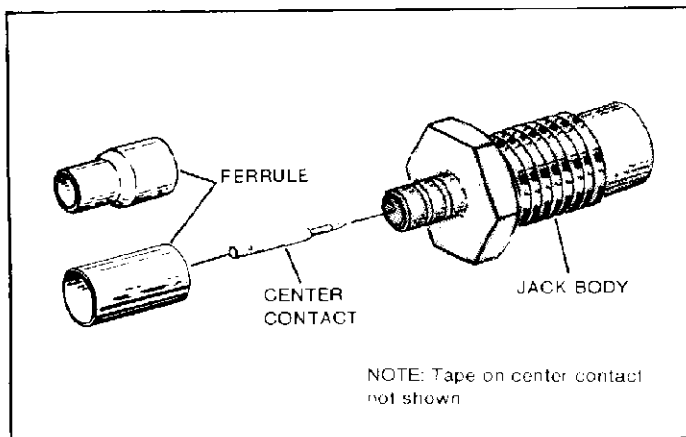
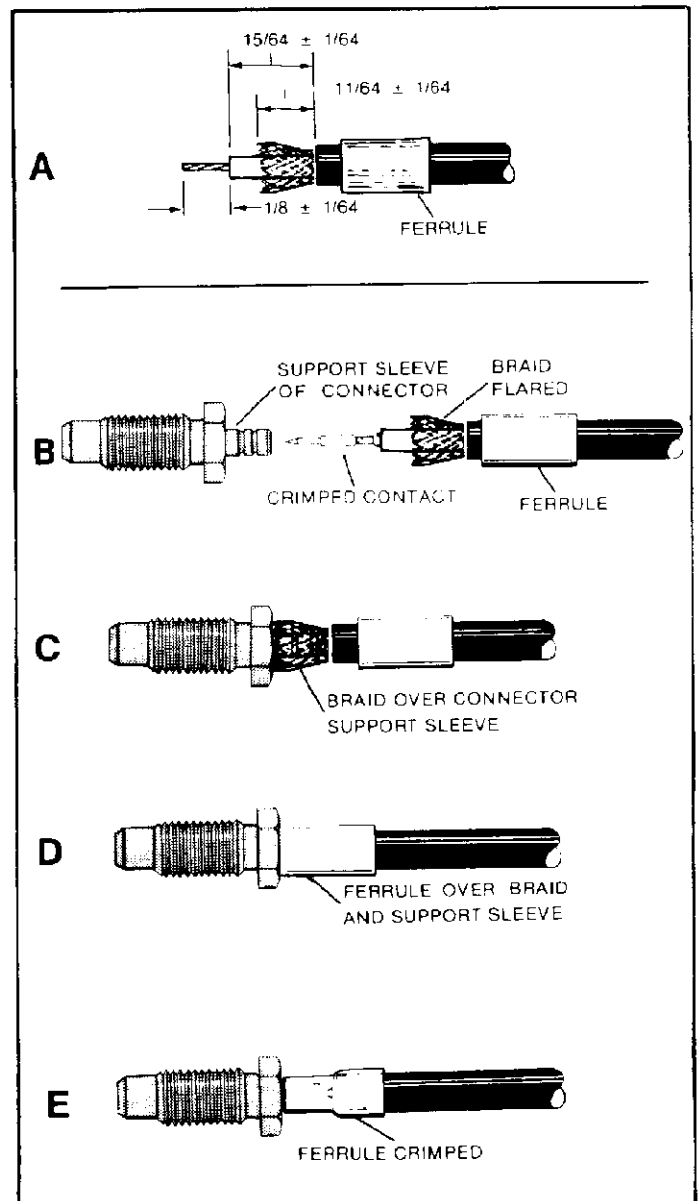

Figure 2
Figure 3
Figure 2 shows a typical COAXICON series SMC connector assembly. Detailed crimping instructions are packaged with the crimping tools and dies. Refer to Figure 3 and steps below for assembly procedure.
2. CONNECTOR ASSEMBLY (Figure 3)
- Slide ferrule onto cable and strip cable to dimensions shown. (Note orientation of stepped ferrule in figures 2 and 4.) Flare braid.